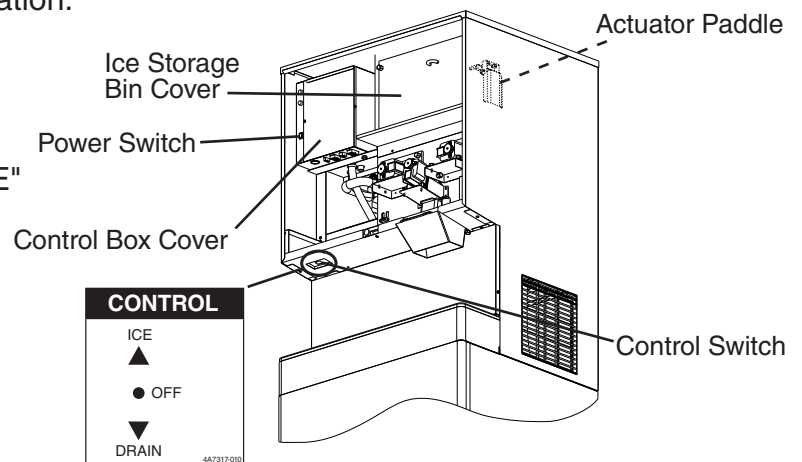
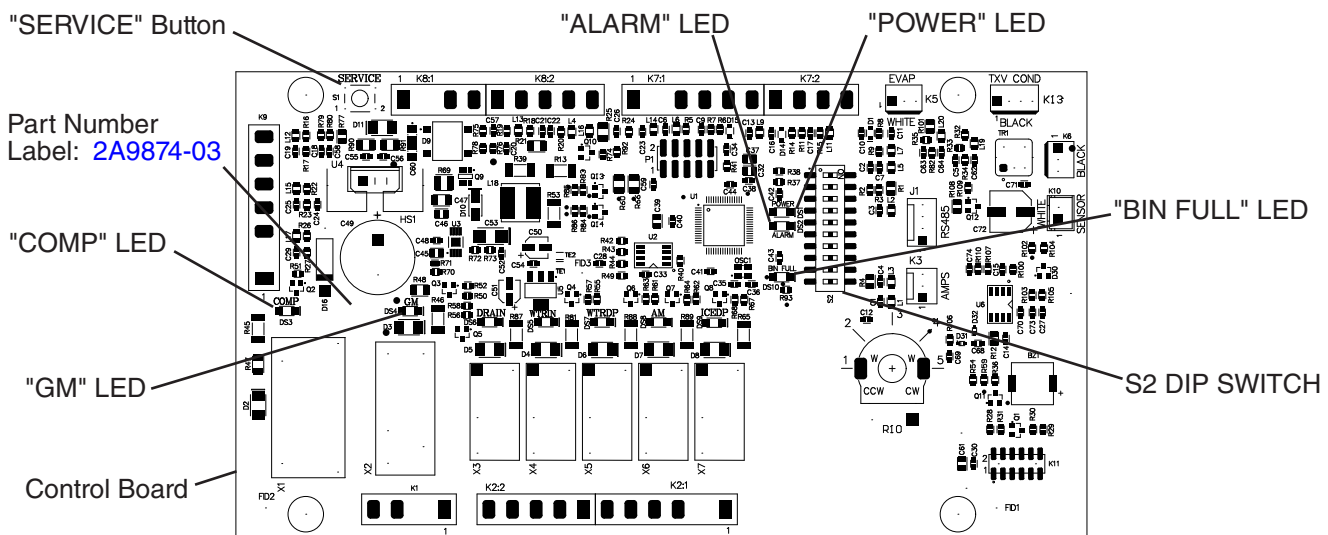

Fig. 7
Fig. 8
- 2) Move the control switch to the "OFF" position. See Fig. 7.
- 8) Remove the front panel, then remove the ice storage bin cover. See Fig. 7.
- 10) Confirm bin control operation. Remove the control box cover, move the control switch to the "ICE" position. See Fig. 7. After the "GM" LED on the control board turns on (5 sec.), the 5-min. ice purge timer starts. Bypass the 5-min. ice purge timer by pressing the "SERVICE" button on the control board. See Fig. 8. **WARNING! Risk of electric shock. Care should be taken not to touch live terminals.** Otherwise, wait for the 5-min. ice purge timer to terminate and the compressor to start. Next, press and hold the actuator paddle located inside the ice storage bin. **WARNING! Keep hands, hair, and loose clothing clear of the agitator(s) inside the ice storage bin.** 6 to 10 sec. later, the 90-sec. compressor shutdown timer starts. Once the 90-sec. compressor shutdown timer terminates, the compressor de-energizes and the 60-sec. gear motor shutdown timer starts. Once the 60-sec. gear motor timer terminates, the gear motor de-energizes.